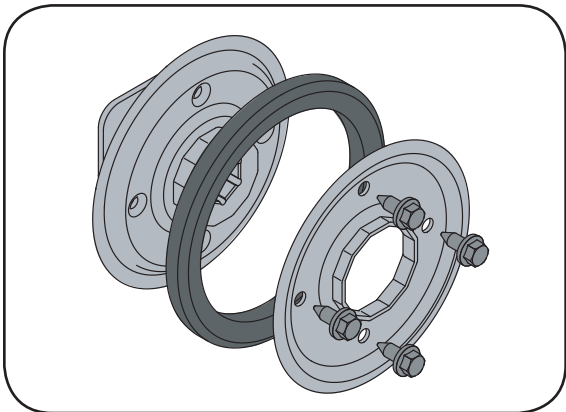

Figure 6-13
6. Remove the four screws which secure the friction wheel's side plates together. See Figure 6-13.